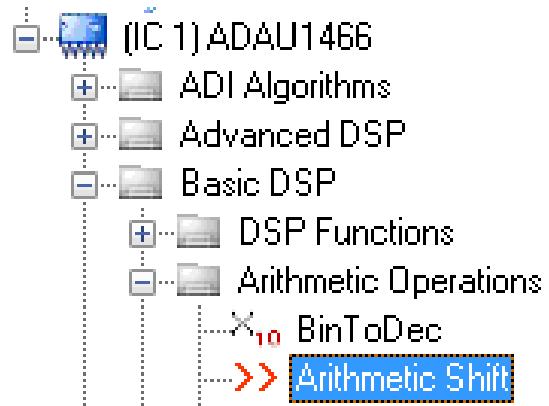

Figure 57. **Arithmetic Shift** Block Selection
- a. From the **Basic DSP > Arithmetic Operations** folder, click **Arithmetic Shift** (see Figure 57) and drag it into the project space to the right of the toolbox.